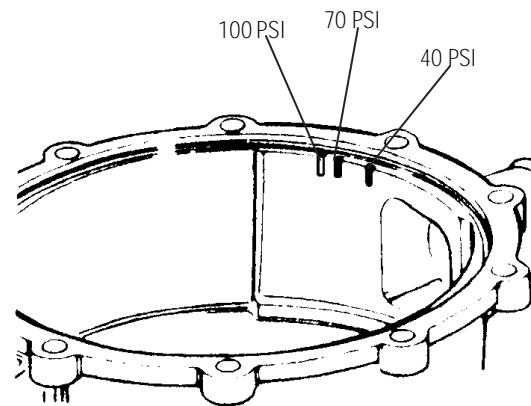

Figure 5
*NOTE: 1½ and 2" units (E\*\*-\*Q and F\*\*-\*Q models) have three possible positions for installation of the measuring chamber. (See Figure 5) The purpose of these positions is to permit the chamber to be matched to the line pressure of the system, and to prevent overloading or racing beyond the rated capacity. The chamber is shipped from the factory with the chamber in the 70 psi slot. If necessary, change the position to match your average pressure.*